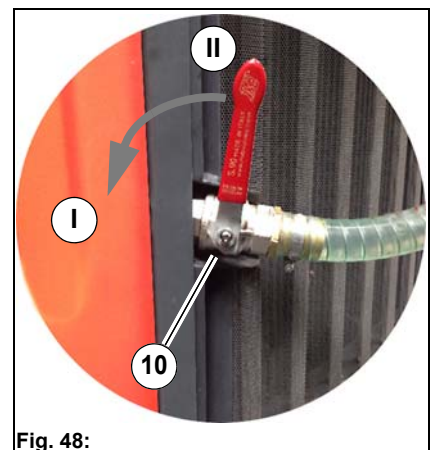

Fig. 48:
- Circulating water supply opened: Ball cock in position **Fig. 48-I**
- Circulating water supply closed: Ball cock in position **Fig. 48-II**